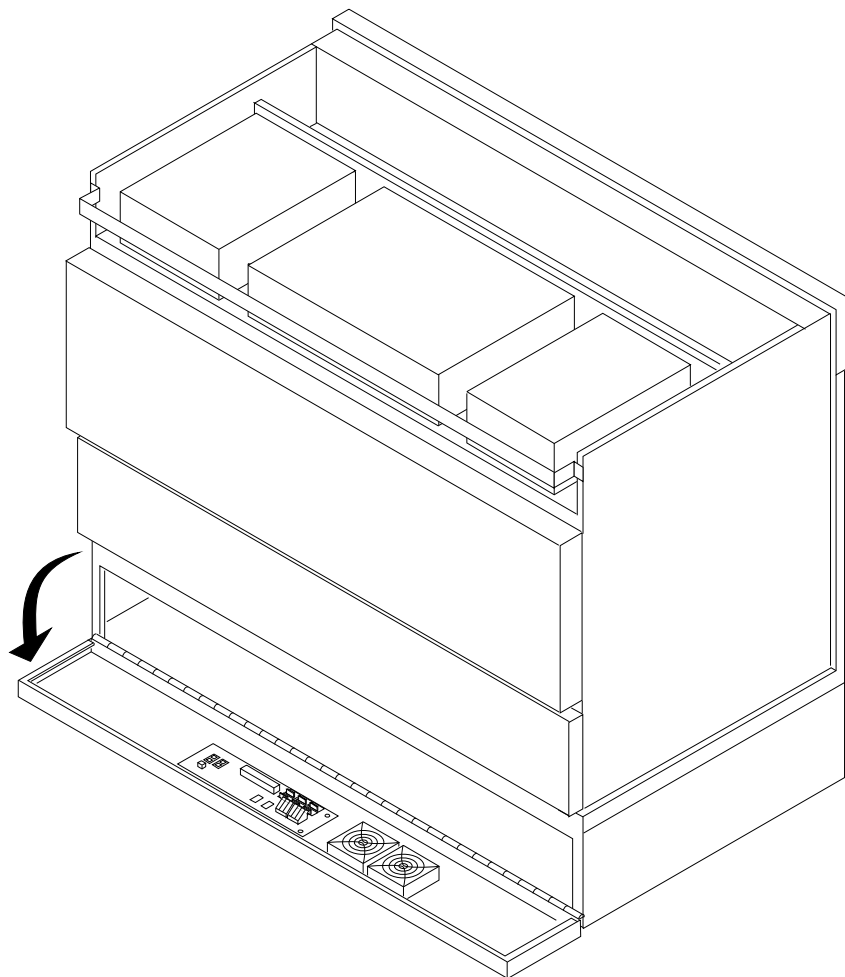

Figure 4-9. MAP/100C Back View with the Peripheral Bay Door Open
4. Swing the door down as far as possible (Figure 4-9).